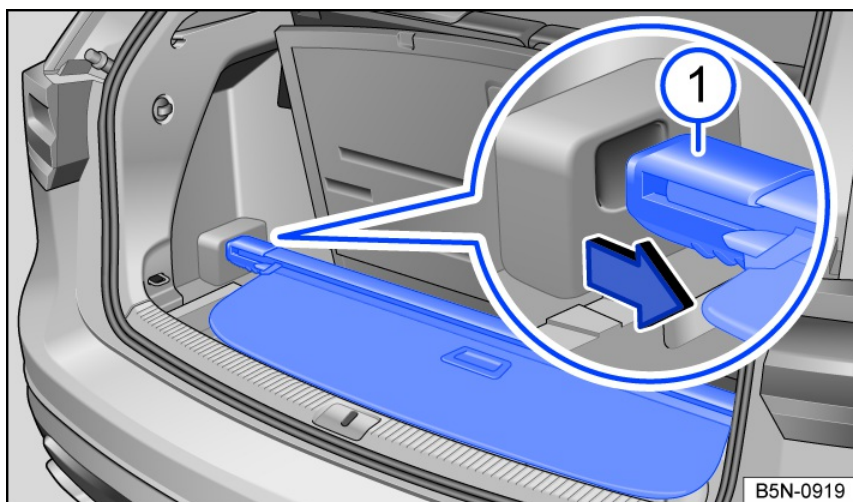

Fig. 157
- Insert the luggage compartment cover into the bracket designed for it fig. 157.